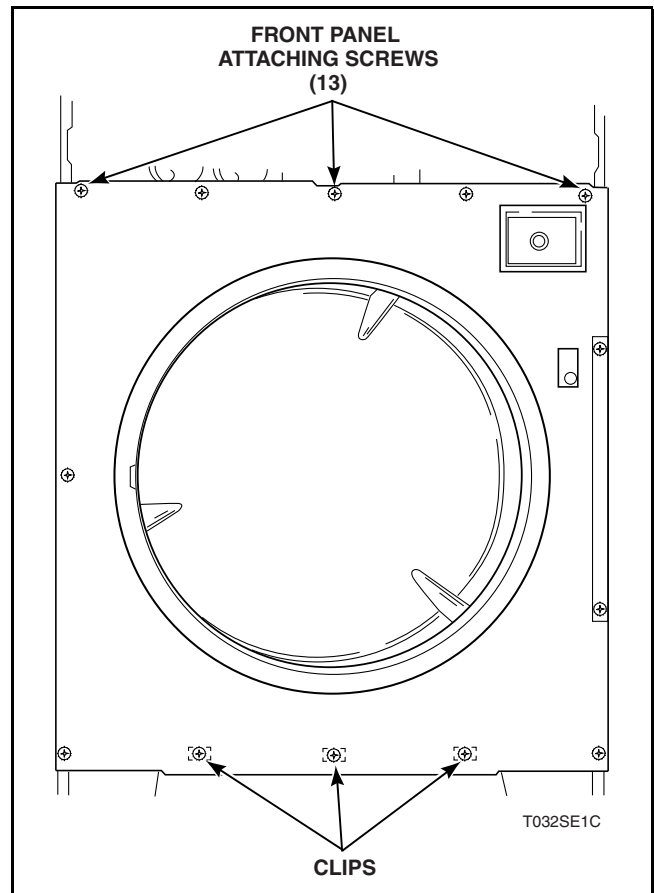

Figure 26
- Support front panel and remove screws and three clips holding front panel to tumbler cabinet. Refer to *Figure 26*.